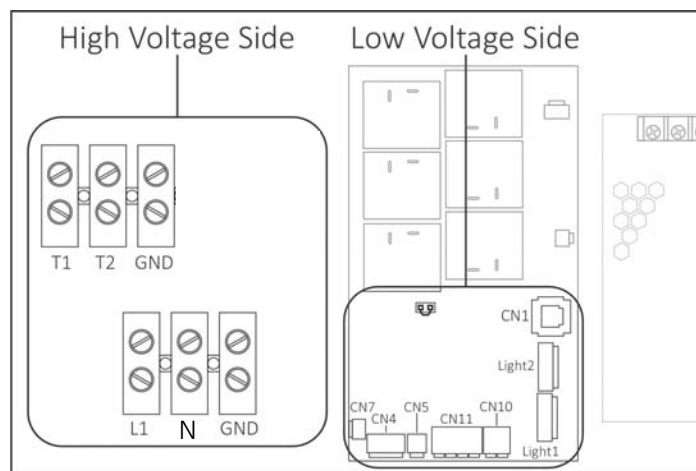

Figure 9. CB Box Interior
21. The sauna room wires and cables are labeled according to the terminals they connect to inside the CB box. See Figure 9.